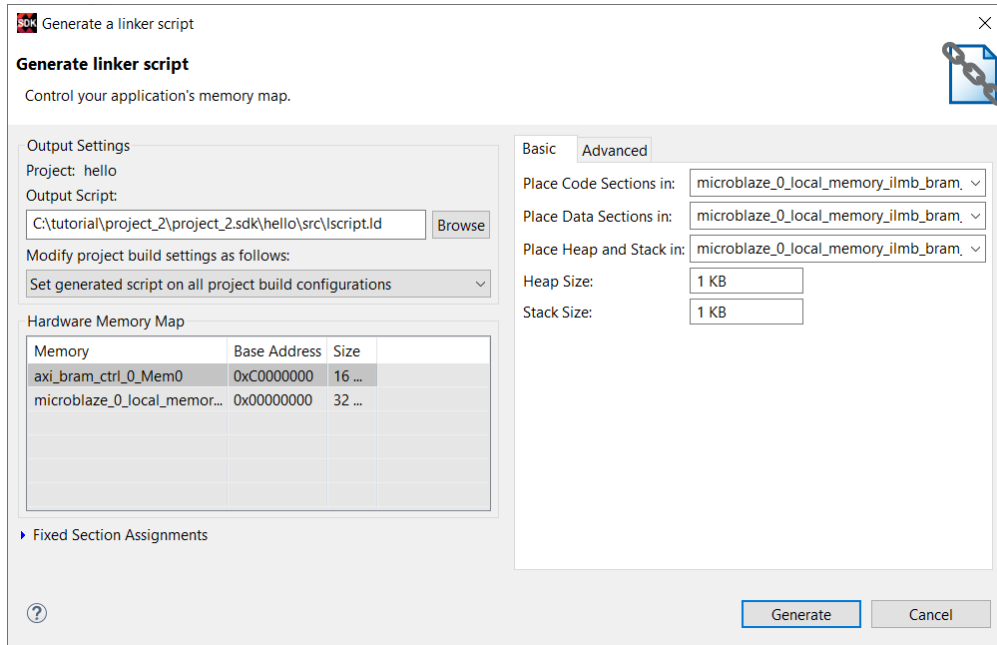

Figure 11: Generate Linker Script dialog
**Right Click** on your project name in the left pane and select **Generate Linker Script**; the window that appears is shown in Figure 11. On the left side is listed the various memories connected to your MicroBlaze, and on the right side we see the various parts of the program that we can assign to be stored in particular memory devices. Select the drop-down menu labelled *Place Data Sections in* and note that we have the BRAM controller listed here. If you select the drop-down menu labelled *Place Code Sections in*, you won't see the BRAM controller. This is because the BRAM Controller is only connected to the Data AXI interface in our original project, so the instruction port of the MicroBlaze cannot access our BRAM. We don't need to change the linker script at this time, so simply press **Cancel**. These steps were simply to show you how you would move sections of the program to different memories for future projects. Note, the *Heap* is used for dynamic memory allocation, so if some program you are writing is running out of working memory, moving the heap to a larger memory should alleviate this problem.